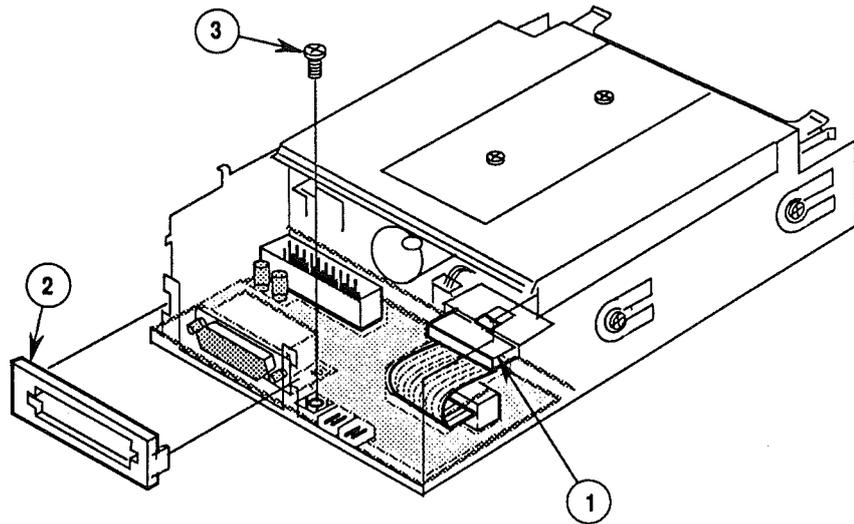

FIGURE 13
3. Disconnect cable connector CN102 (Figure 13, #1) from the drive mechanism. You may need a jeweler's screwdriver to pry off the connector at the small plastic tab.
4. Using a jeweler's screwdriver (if necessary), pull back the two side tabs and remove the plastic daisy chain cover (Figure 13, #2) from the outer metal shield.
5. Remove the screw (Figure 13, #3) that secures the daisy chain interface board to the outer metal shield.
2. Slide the interface board to the left until the notch in the board clasps the holding bracket on the metal shield. Replace the interface board mounting screw (Figure 13, #3).
3. Replace the plastic daisy chain cover (Figure 13, #2) on the outer metal shield. Be sure to secure the two cover side tabs around the metal shield.
4. Reconnect cable connector CN102 (Figure 13, #1) to the drive mechanism.